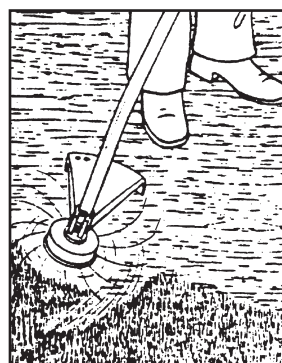

Fig. 13.
- Angle the trimmer head approx. 30 degrees to the left (it is easier if you loosen the loop handle and adjust it) See fig. 13.